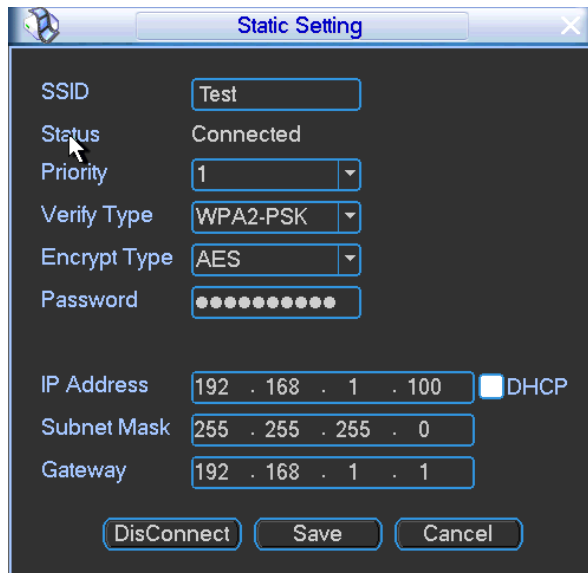

Figure 4-25
After successfully connection, you can see the following interface. You can see it is connected now. See Figure 4-25.
- On the static setting interface (Figure 4-25), only the hotspot of WEB authentication mode can supports key-index.